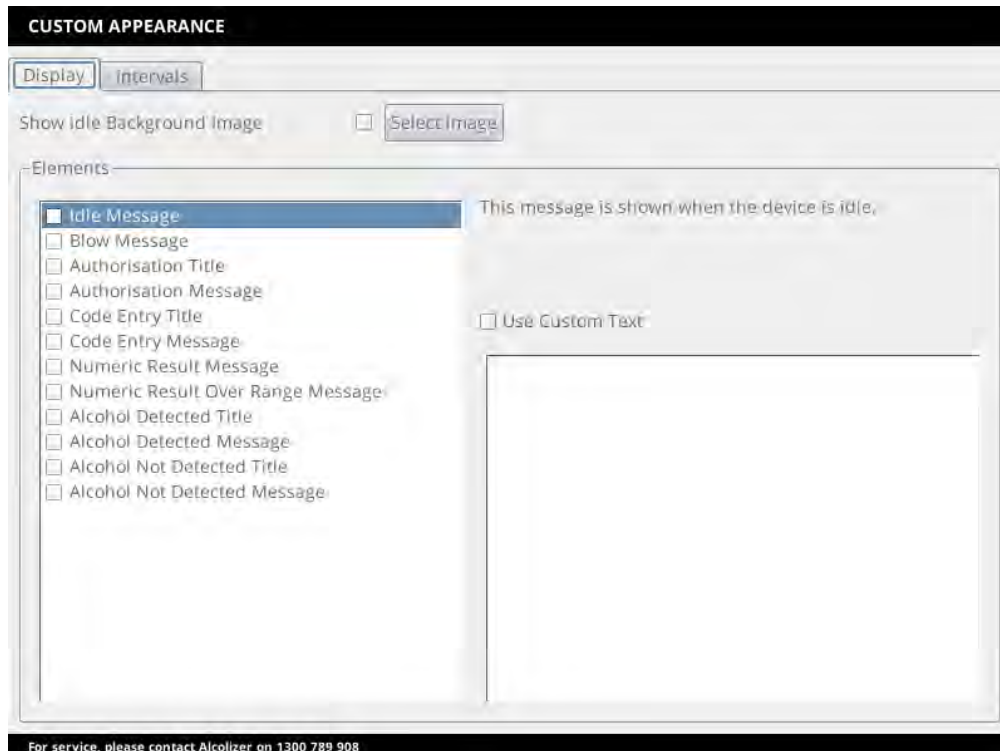

Figure 22 – Custom Appearance - Custom Text
- Tick the Show Idle Background Image box (refer Figure 22).